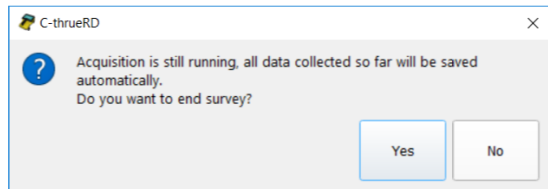

Fig. 57 – Exit message if the user is still in acquisition.
-  Click the button to stop the current Project and go back to the main menu. In this case, If the acquisition is still running () , a message appears as in Fig. 57: